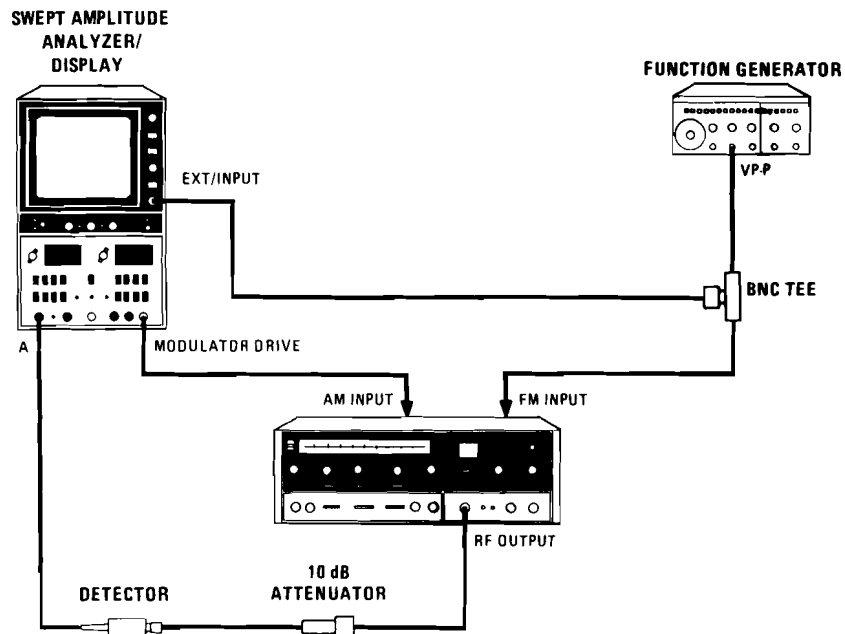

Figure 3. YTM Frequency Tracking Adjustment Setup
9. Connect the equipment as shown in Figure 3. Be sure that the 100k Ω Resistor is still connected.